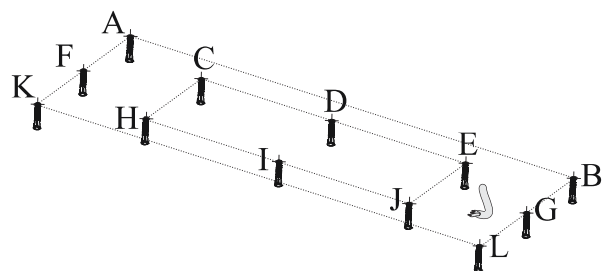

Fig. 23
4. Remove the installation template from the surface. Hammer in the Ø10mm dowels to the holes you drilled (Fig. 23).